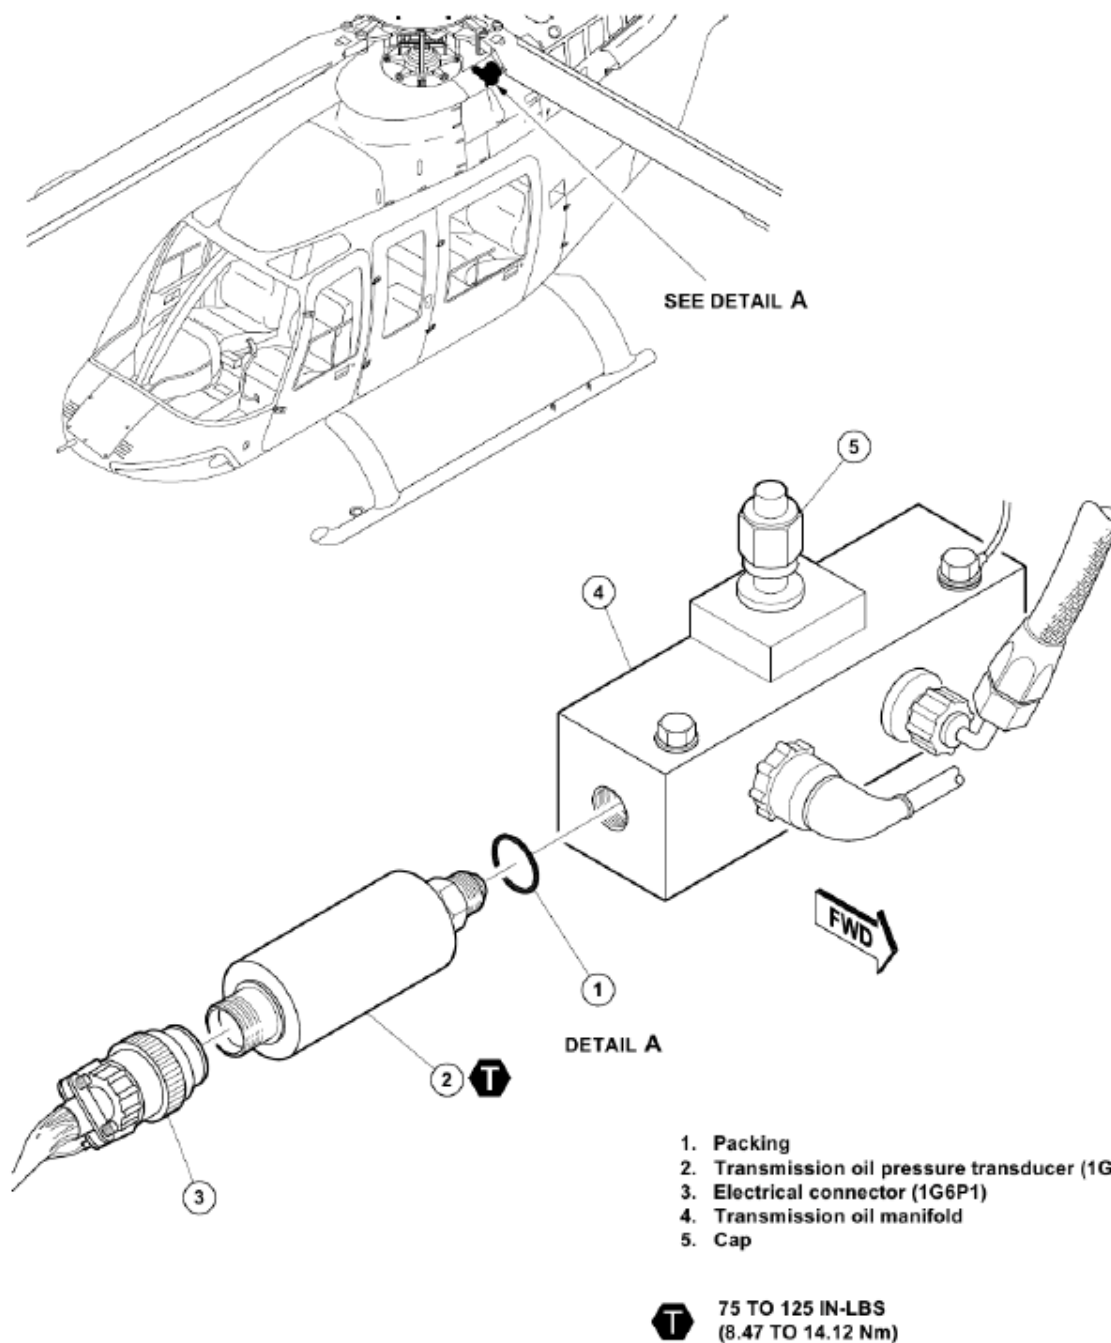

Figure 95-31: Transmission Oil Pressure Transducer - Removal and Installation
2. Remove the engine air inlet cowling (Chapter 53) to access the transmission oil manifold (4, (C-156) Figure 95-31).
2. Lubricate the packing (1, Figure 95-31) with the oil used in the transmission oil system.
4. Install the packing (1) on the transmission oil pressure transducer (1G6) (2).
5. Install the transmission oil pressure transducer (1G6) (2) on the transmission oil manifold (4). Torque the transmission oil pressure transducer
6. Connect the electrical connector (1G6P1) (3) to the transmission oil pressure transducer (1G6) (2). Make sure that the electrical connector is tight and secure.
1. Locate the oil pressure line that travels from the transmission to the transmission oil manifold (4, Figure 95-31). Disconnect the oil pressure line at the transmission.